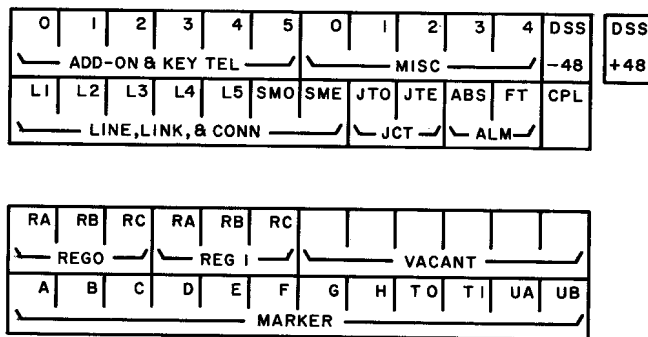

Fig. 23 - Switching System No. 400 Fuse Panel
9.01 70A fuses are provided for all circuits of the switching system No. 400 as shown in Fig. 23. Fuse panel is located on slide 1, mounting spaces 16 and 17.